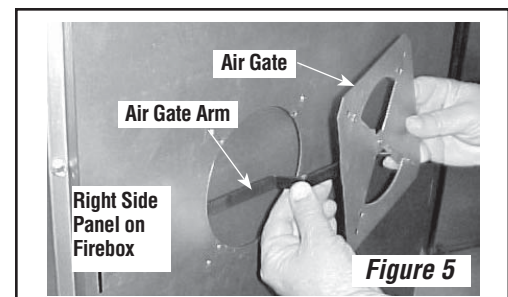

Figure 5
3. Take the Air Gate Assembly and feed the arm through the round opening (see **Figures 5 & 6**) and then through the side frame opening. Ensure the air gate arm remains attached to the air gate (see **Figure 7**).